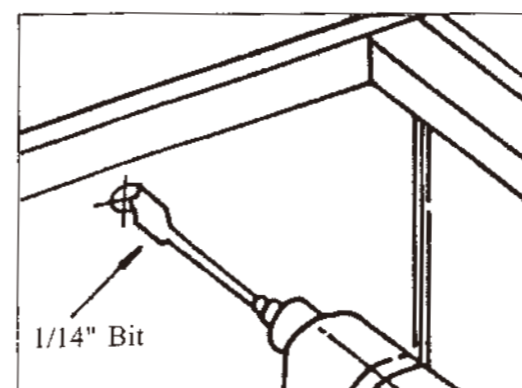

Fig. 10 Drill an access hole for electrical power line
5. On the cabinet, mark the position of the access hole through which the power supply cord will go. Drill the access hole with a 1-1/16" bit on your drill. (Fig. 10)